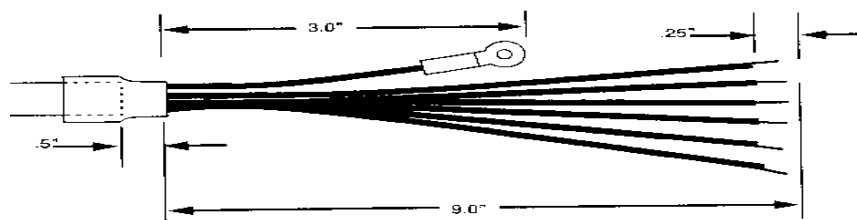

Figure 6.1 Cable Preparation
4. Strip approximately nine inches of sheathing back from the load cell cable and prepare as shown in Figure 6.1. Solder a wire with a loop connector to the shield to be terminated to the ground stud.